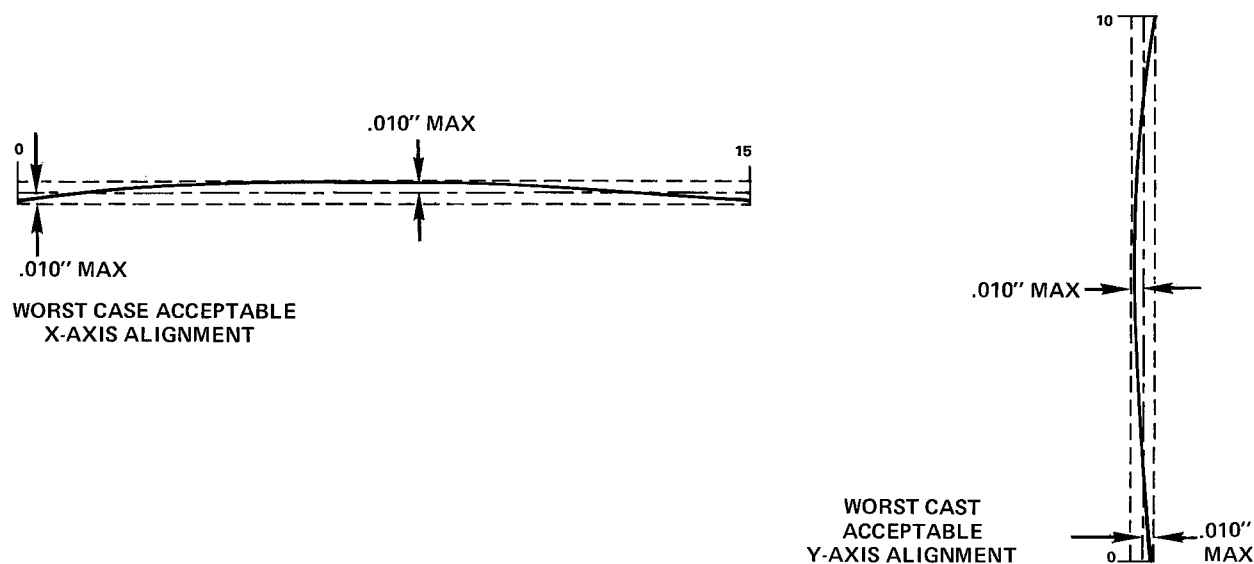

FIGURE 3-20. WORST CASE ACCEPTABLE ALIGNMENT (X-AXIS AND Y-AXIS)
- i. Press FMT ↓. Line drawn should not deviate from the Y axis grid lines (0.01 in. max). Move lower end of arm to right or left to effect alignment (see Figure 3-20).
- e. Enter 7500 into X register of calculator, 0 into Y register and press FMT ↓. If line drawn is not parallel to X axis, move one end of paper alignment bar up or down to effect alignment (0.01 in. max). (See Figure 3-20.)